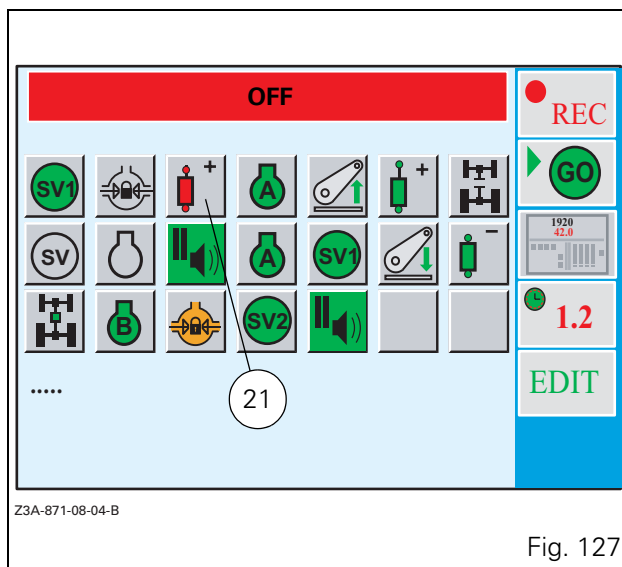

Fig. 127
- Validate either by pressing the encoder, or by pressing key «₁. The window (21 Fig. 127) is displayed with the inserted icon.